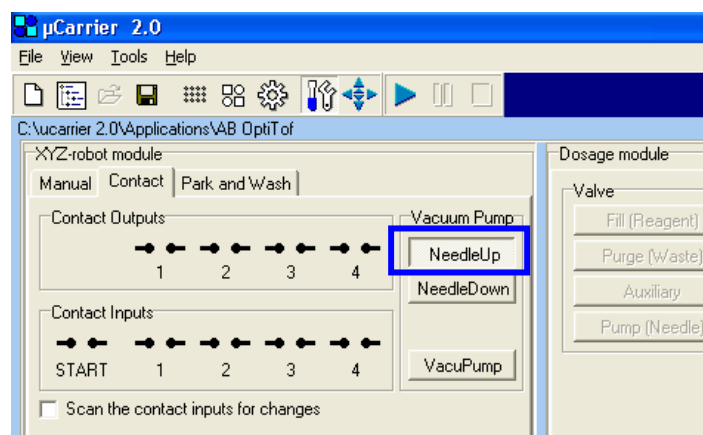

FIGURE D-6 XYZ Robot Section – Contact Tab
- Select the **Contact** tab and select the **NeedleUp** button to make sure that the needle is in its upper position (FIGURE D-6).